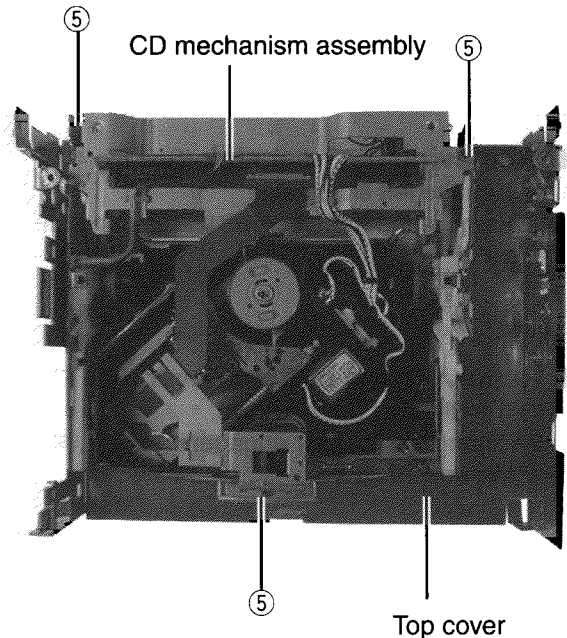

Fig.9
■ **Removing the CD mechanism assembly** (See Fig.9)